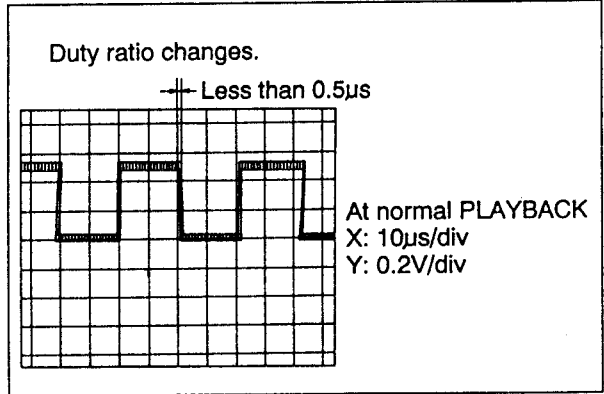

Fig. 1
- Load a **DCC music tape (RFKZ0034)** into the unit under test and put the unit in **PLAY mode**. When the capstan servo is locked, a **47 Hz square wave with a duty ratio variation of less than 0.5μs** will be observed on the scope (see Fig. 1). Unlock the servo and verify that the muting function is active.